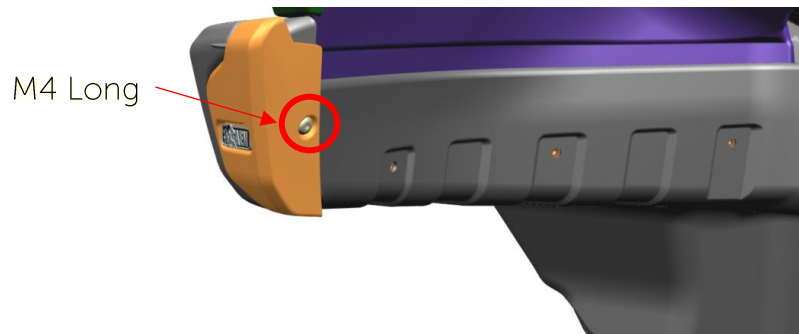

Figure 3 – Driver AEV Corner End Cap
- a. Using [1] M4 Bolt Long (T15 Socket) 11611884 per side, install end cap through AEV Wheel Liner Closeout and bumper – Fig. 3